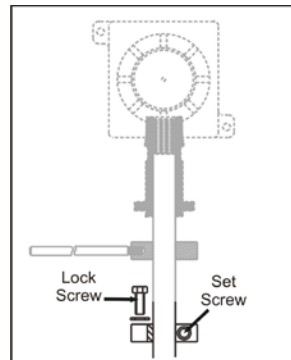

Figure 3
- Loosen the set screws (see Figure 3) in the side of the lock collar, and move the collar to the position noted in the previous step.
- 2.3.7 **Carefully** rotate the shaft to align the lock collar and top cap so that the lock screws (see Figure 3) can be inserted into the top cap.